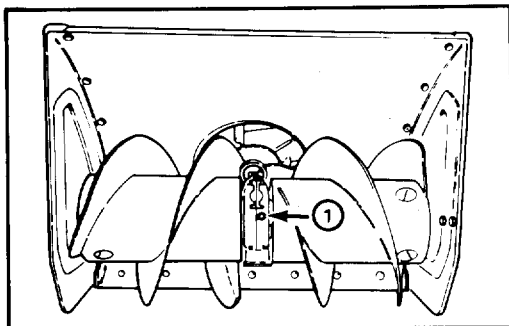

Figure 24
AUGER GEAR BOX OIL (Fig. 24)
3. Remove pipe plug from gear box (Fig. 24).